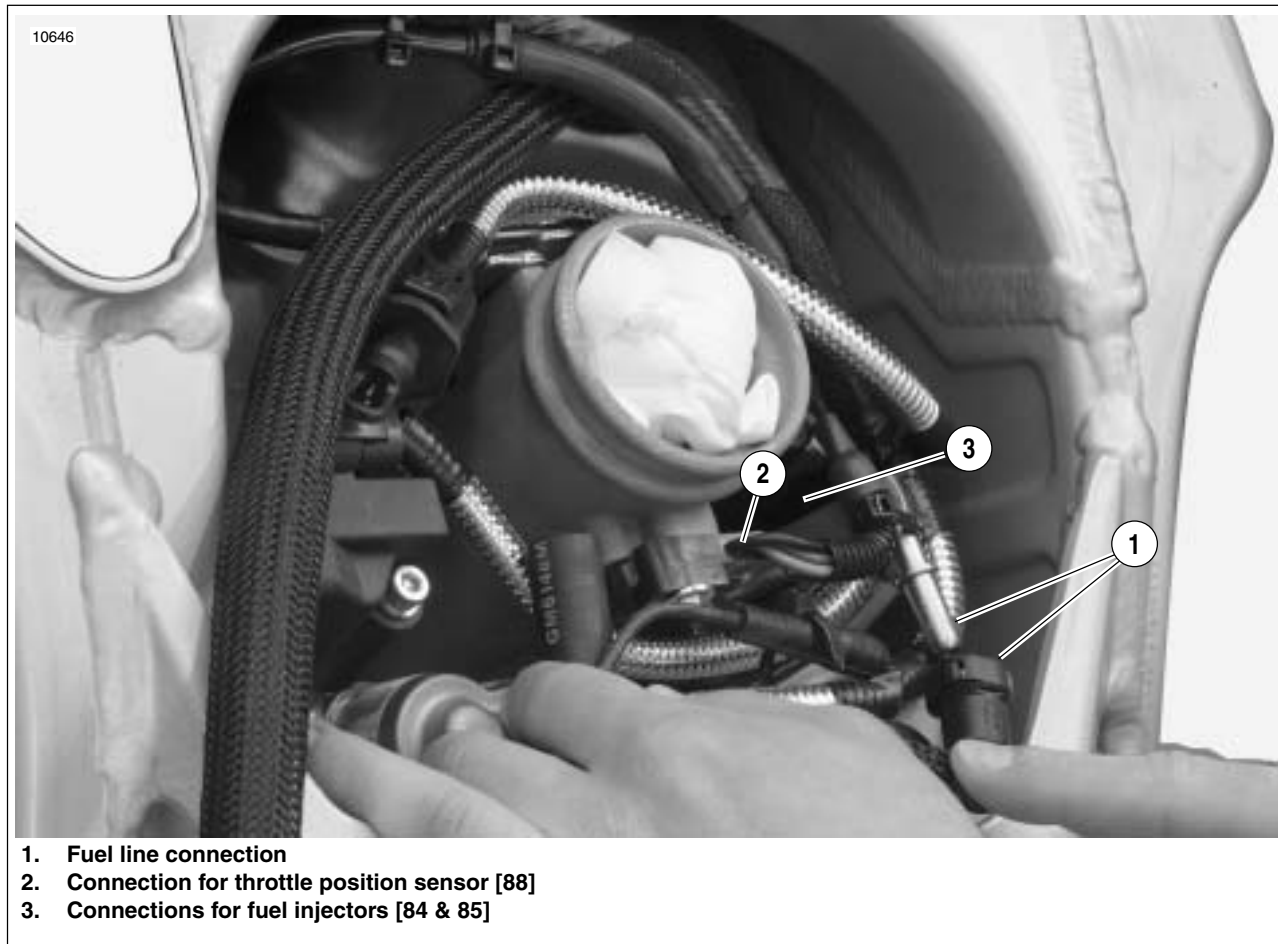

Figure 3-1. Fuel Line and DDFI Electrical Connections (Typical)
8. See Figure 3-1. Disconnect fuel line.
9. Disconnect the throttle position sensor (2) [88].
10. Disconnect the fuel injector leads (3) [84 & 85].